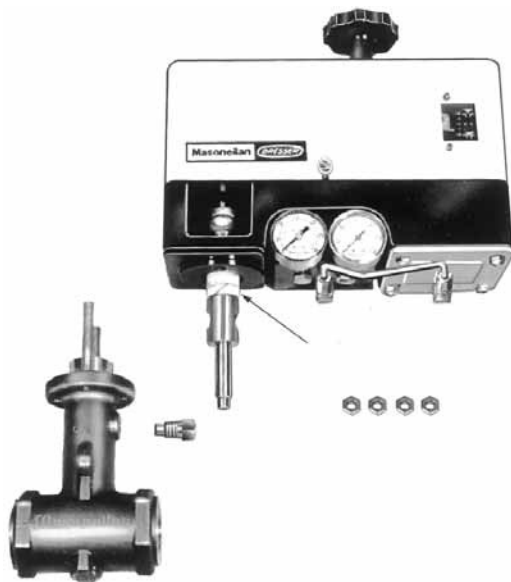

Figure 21 - Packing replacement (for C_V maxi \geq 0.6)
- N. Admit the signal and supply pressure and complete calibration. Refit cover (110) using the two screws (109). If the valve is equipped with a handwheel, refit the cover, then turn the handwheel clockwise until it is engaged in lever arm stop (122). Tighten cover screws (109).
5.5 Packing Quick Change Method (Only For Valves With Max. C_V Of 0.6 To 3.8) (Figures 21, 26 And 27)